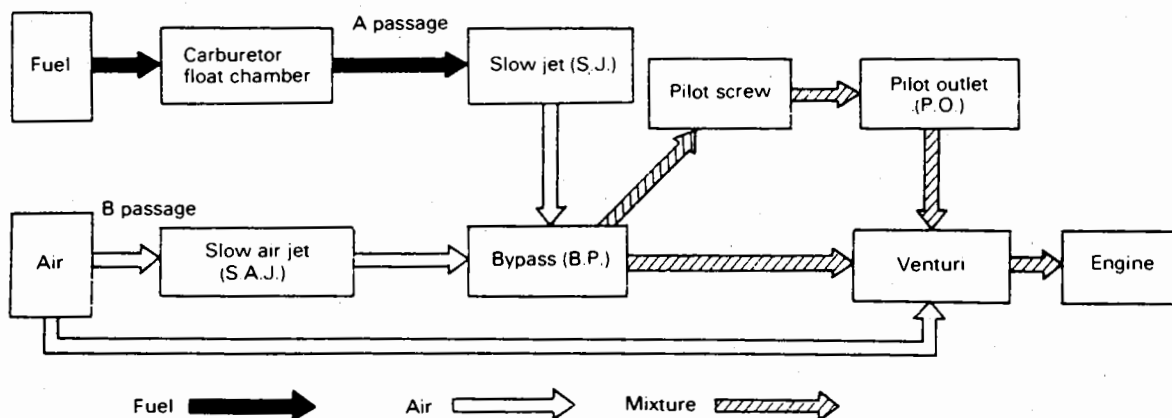

Fig. 104
1) Pilot system (See Fig. 104)